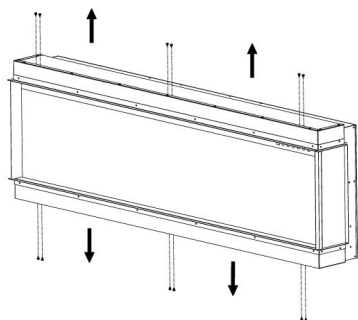

Fig.3-1
1. Remove the 8 (or 12) screws on the top and bottom of the appliance, see figure 3-1.